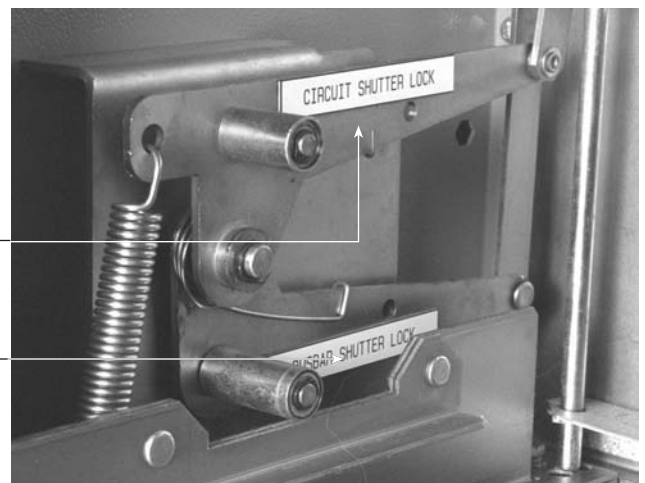

Figure 1.30 Shutter locking
- The shutters can be secured in the open or closed position independently of each other with safety locks (refer to figure 1.30) when the switching device has been removed.